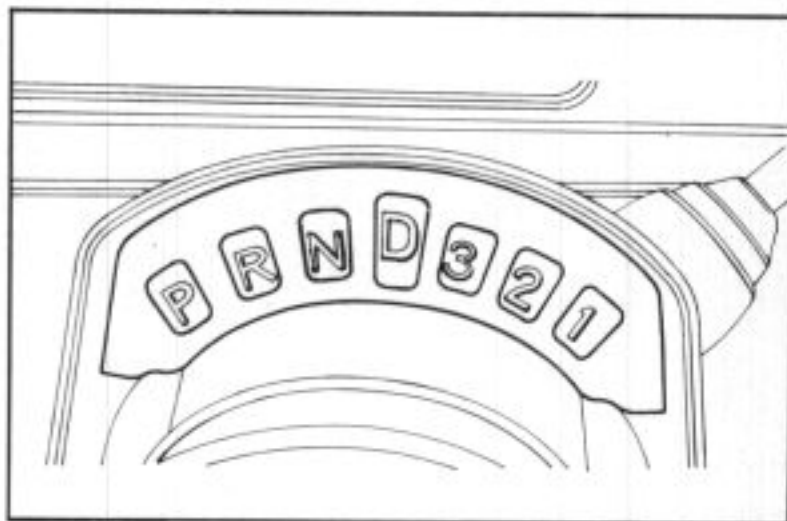

Fig. 7B-273
1. Position the selector lever so that indicator is pointing to **N** on the quadrant. (Fig. 7B-273)
2. Position the manual shift control lever on the transmission to neutral range. (Fig. 7B-274)